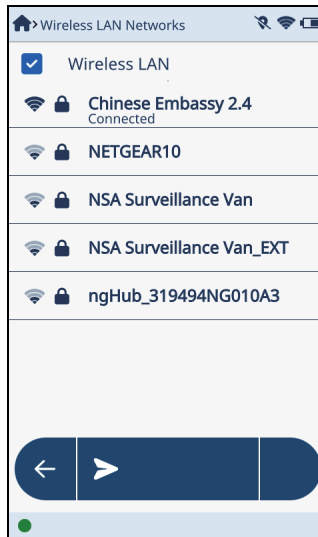

Figure 4-22 Wireless LAN Networks screen
2. Select the **Wireless LAN** check-box to enable the **Wireless LAN** (see Figure 4-22 on page 134).